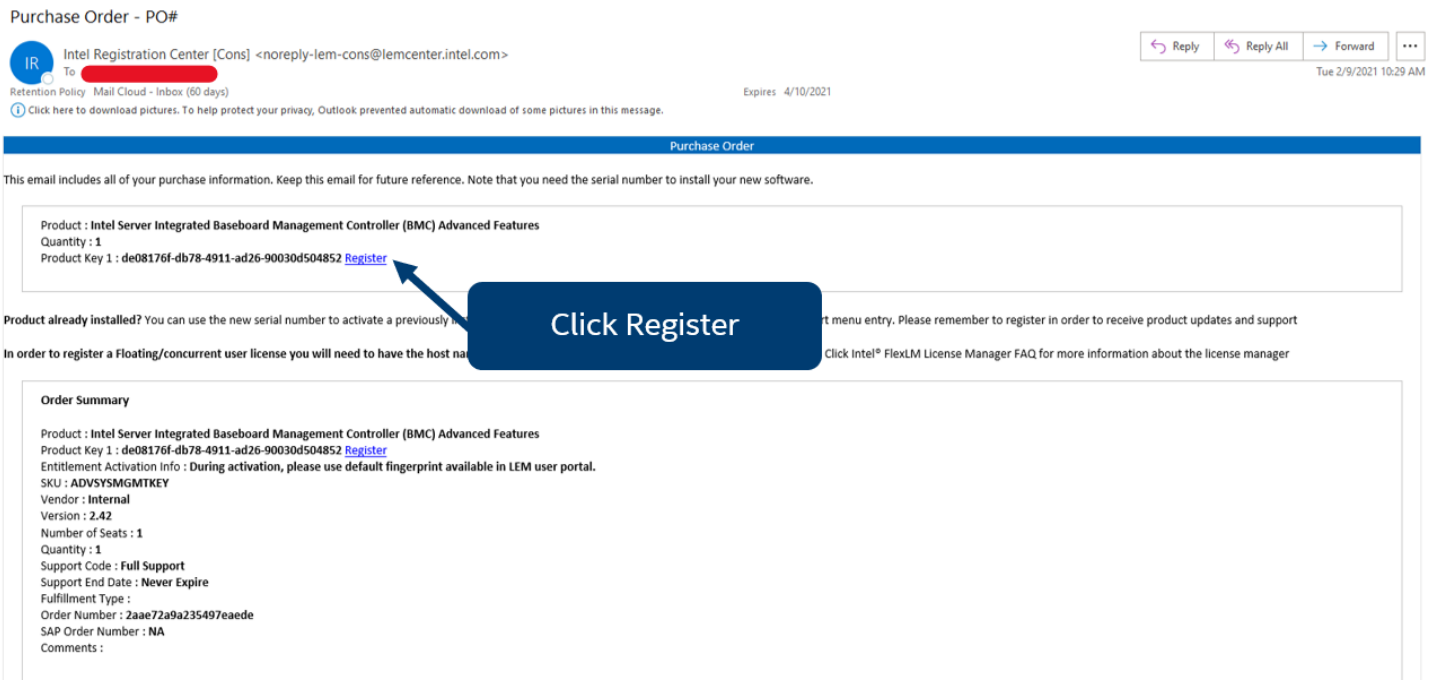

Figure 80. Example Email
3. From the email, Click the **Register** link (see Figure 80) to go to <https://servertools.intel.com/registration>